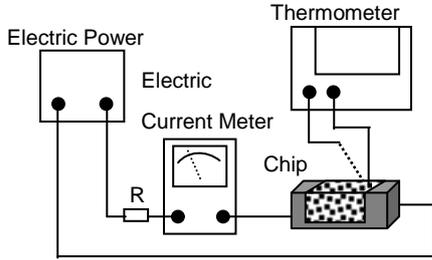

Fig. 5.3.3-1
- d. Definition of Rated Current (I_r): I_r is direct electric current as chip surface temperature raises just 20°C . against chip initial surface temperature(T_a). (see **Fig. 5.3.3-2**):